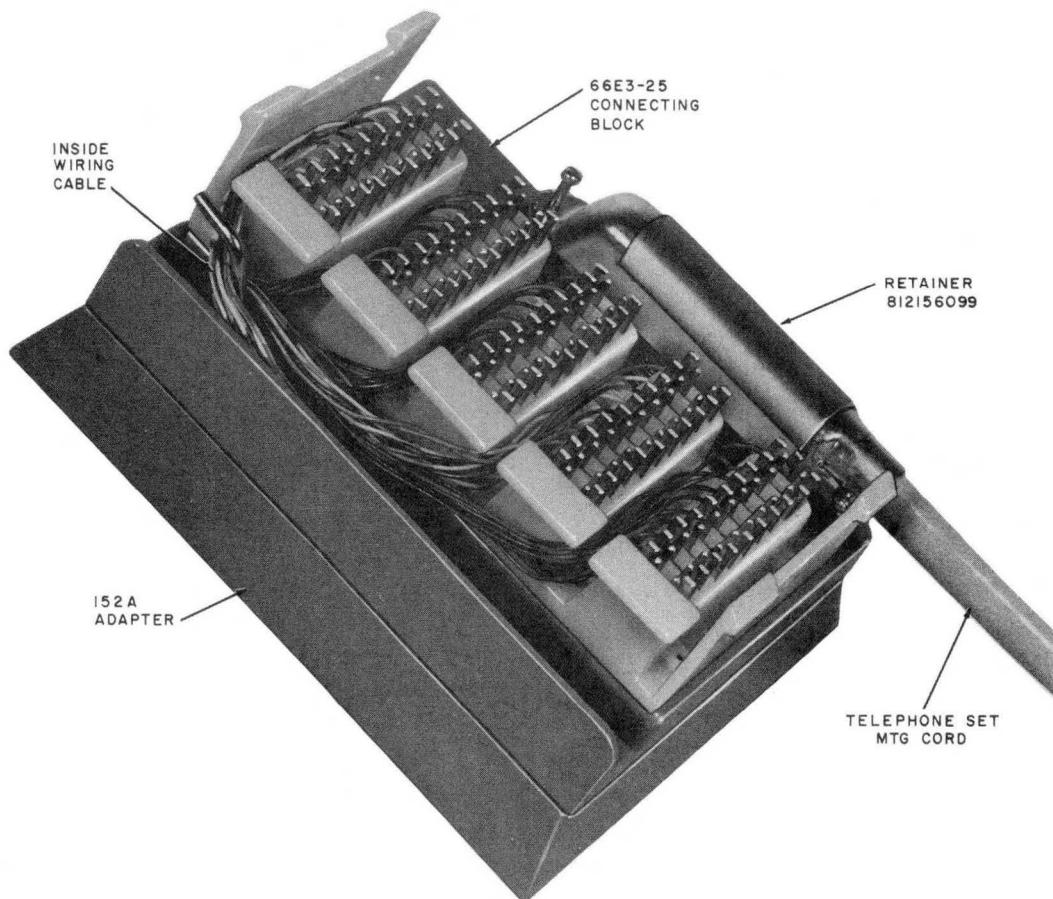

Fig. 4—66E3-25 Connecting Block Installed on 152A Mounting Adapter
3.02 Install the 152A adapter on electrical outlet box or overfloor duct and mount the 66E3-25 connecting block to the adapter, using the mounting hardware provided (Fig. 4). Terminate the cable conductors on the connecting block pins (Fig. 6),